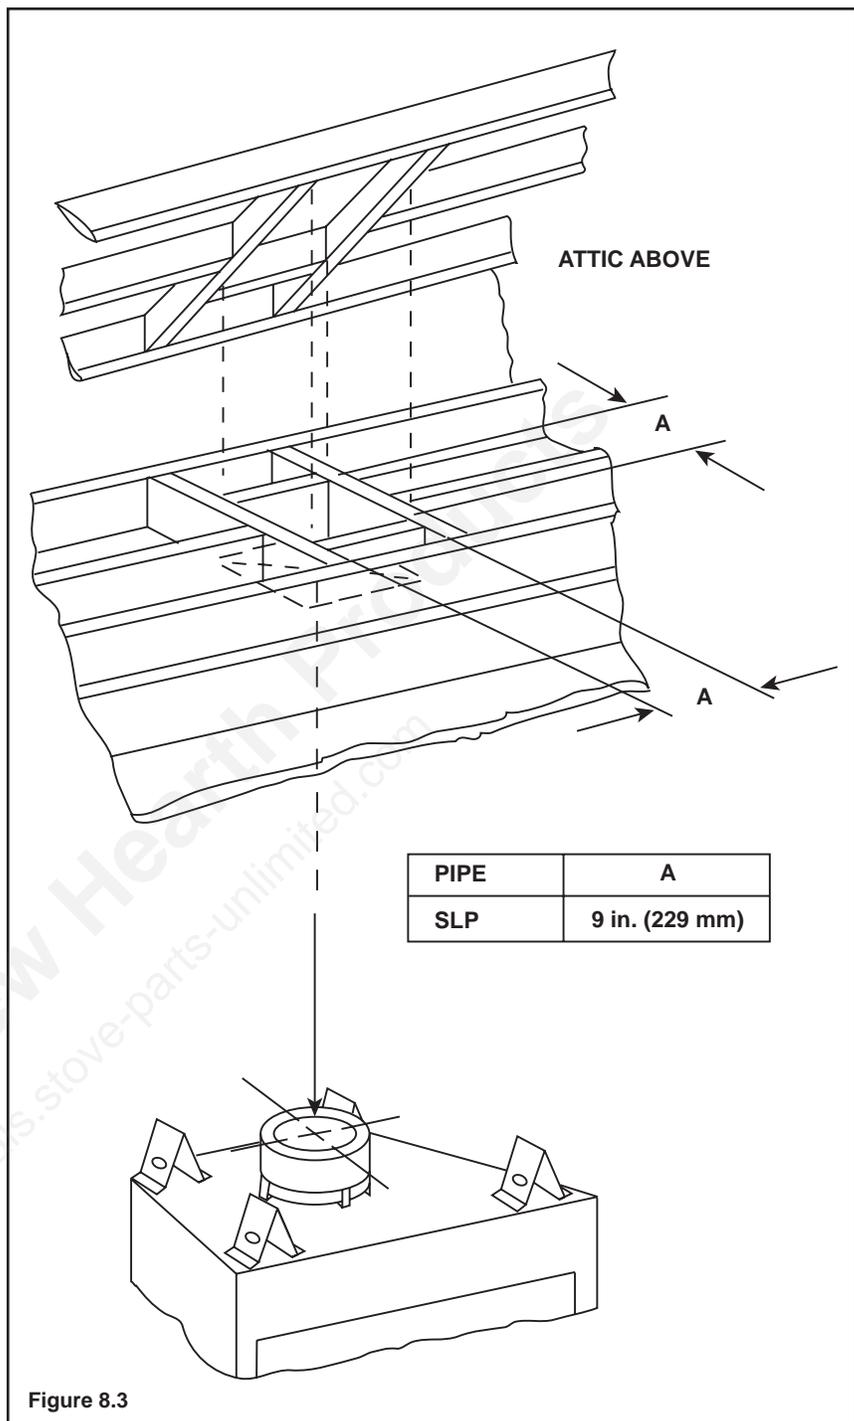

Figure 8.3
- Frame opening 9 in. x 9 in. (229 mm x 229 mm) whenever the vent penetrates a ceiling/floor (see Figure 8.3).